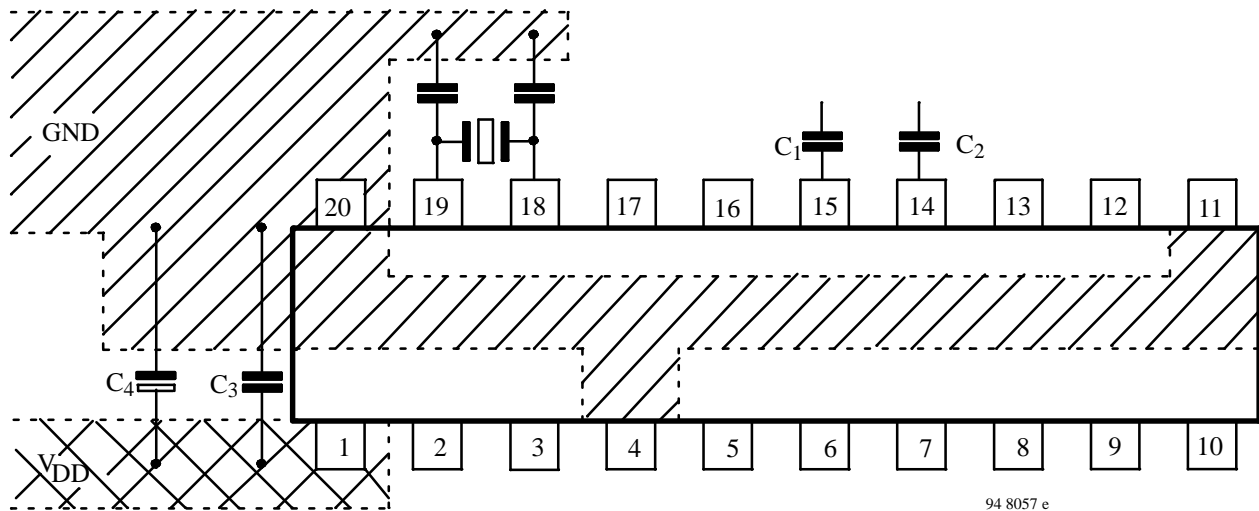

Figure 6.
- GND 2 (Pin 10 – analogue ground) and GND 1 (Pin 20 – digital ground) must be connected according to figure 6